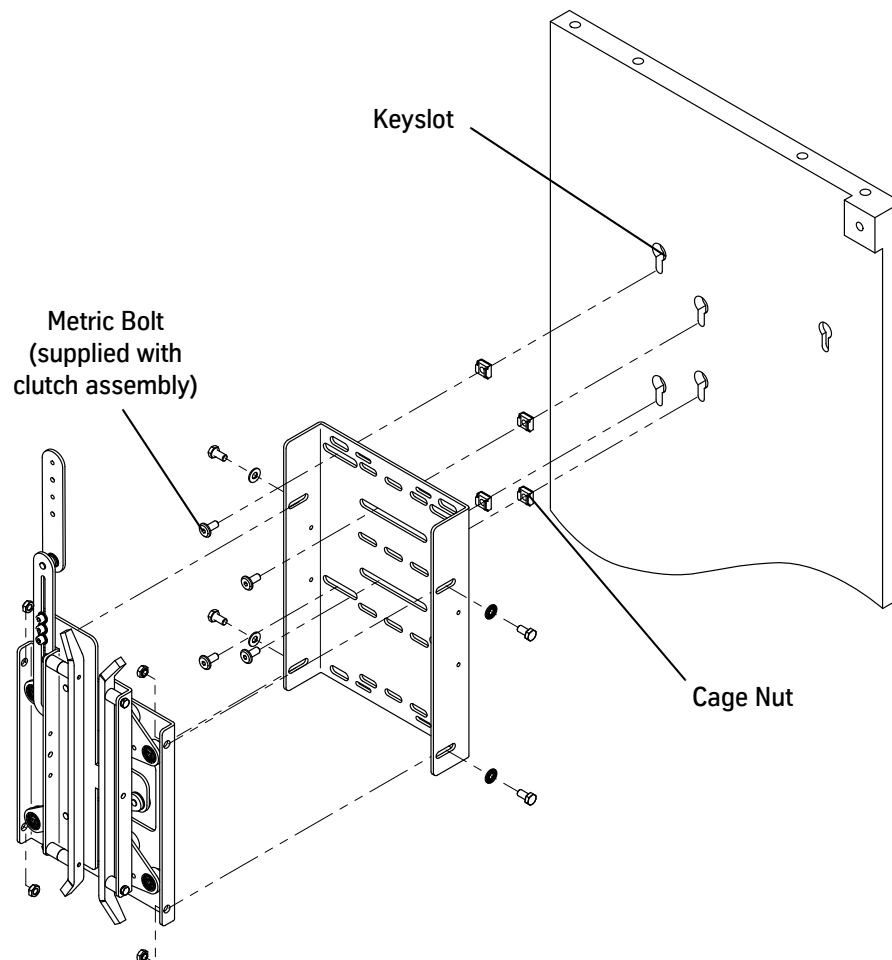

Figure 46 - Clutch Installation
10. Use the supplied metric bolts to attach the clutch assembly. See Figure 46.